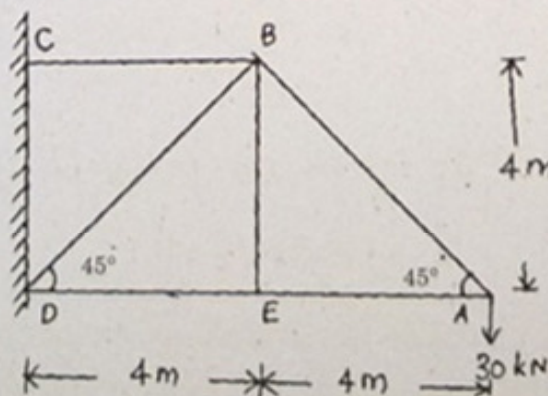

Fig. Q 11 (a)
11. (a) Determine the vertical displacement of joint A of the truss given in Fig. Q 11 (a). The member BD is subjected to an increase in temperature of 80°C . Take the coefficient of thermal expansion as $0.00012/^{\circ}\text{C}$ and $E = 2 \times 10^5 \text{ N/mm}^2$. The cross sectional area of each member is 1700 mm^2 .